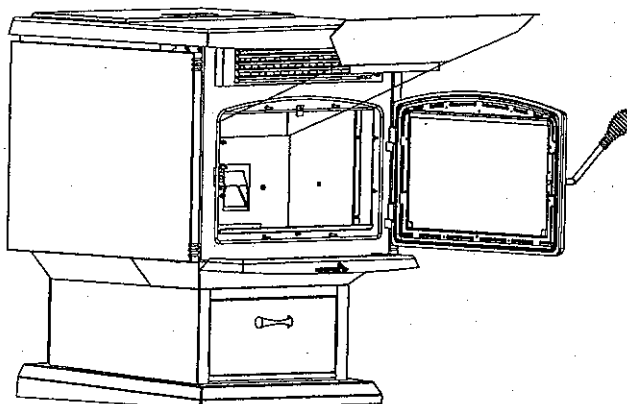

FIGURE 18
- With the door closed, clean heat exchanger tubes by activating the cleaning rod back and forth from front to back. (see Cleaning section and Figure 18 & 19).